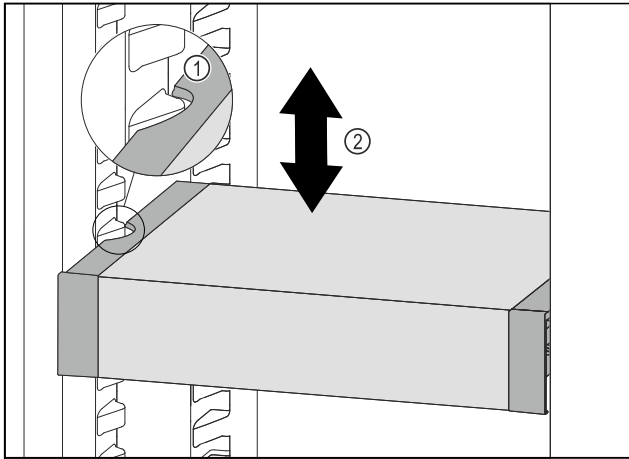

Fig. 111
- ▶ Pull VarioSafe forwards until the recesses in the side of the VarioSafe are at the level of the support rib in the refrigerator compartment. *Fig. 111 (1)*
- ▶ Move VarioSafe up or down in the refrigerator compartment until the desired height is reached. *Fig. 111 (2)*